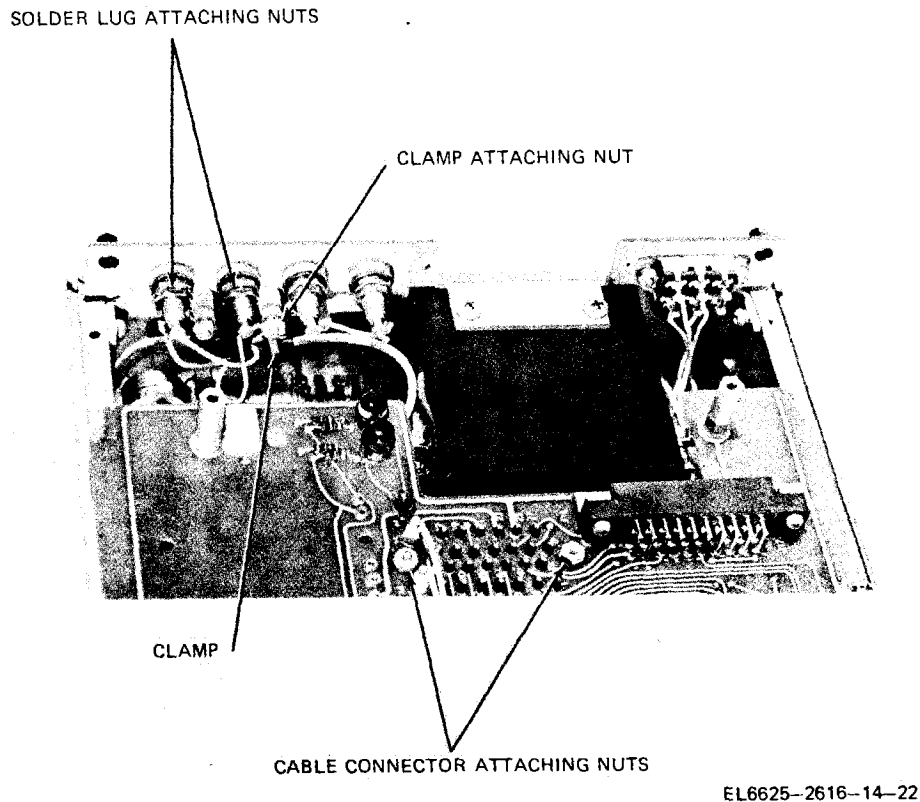

Figure 7-4 Signal conditioning board removal.
(1) Remove power cord from power outlet, top cover, and top shield (a(1), a(3), and a(4) above).
(2) Place signal conditioning board in upright position (a(5) above).
(3) Remove the two nuts and washers attaching the main board ribbon cable connector to the signal conditioning board (fig. 7-4).
(4) Carefully pull the cable connector away from the underside of the signal conditioning board.
(5) Place the signal conditioning board flat, in its normal operating position.
(6) Remove clamp attaching nut (fig. 7-4) and remove clamp.
(7) Remove solder lug attaching nuts (fig. 7-4) and remove solder lugs. Tag one of these lugs for identification.
(8) Remove signal conditioning board.